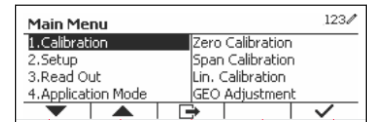

Figure 21
- Long press the  button to enter Main Menu. Select the menu item Calibration by pressing the softkey corresponding to the ✓ icon. (See Figure 21)